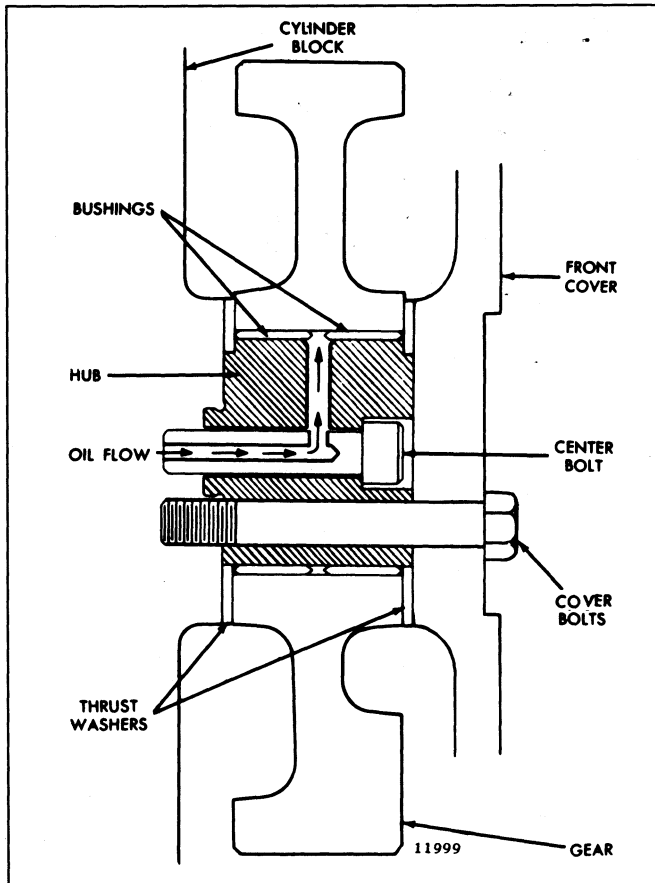

Fig. 3 – Front Gear Train Idler Gear Mounting
The front gear train idler gears (Fig. 3), incorporating bushing type bearings, are used for balancing the engine and driving the water pump. Each idler gear hub is held in position by a special center drilled bolt and four (4) outer bolts which are installed through the front cover and hub and into the block. Two (2) thrust washers are used on each idler gear. The inner washer is held in position by the hub and the outer washer is held in position by the front cover.
- Remove the outer thrust washers and idler gears (Fig. 3).